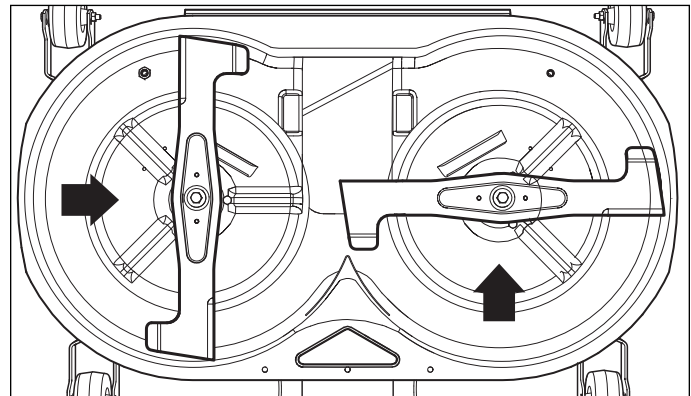

Figure 25. Check Blade Timing
2. Turn the mower deck over and check the position of the blades. The blades must be positioned perpendicular to each other as shown in Figure 25. If not, proceed to step 3.
5. Remove the alignment pin (C). Rotate the blade (D) manually until the blades are perpendicular to each other as shown in Figure 25. It may be necessary to remove and rotate the blade adapter (F) to align the blade hole and adapter hole.